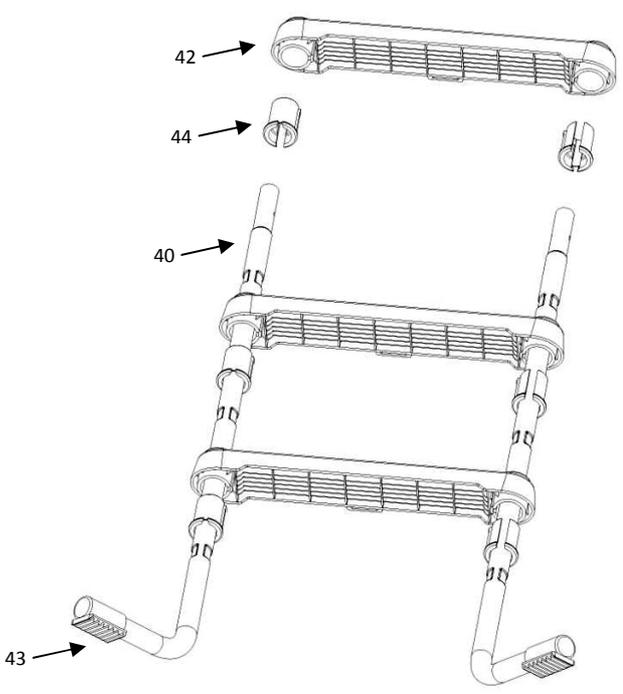

Fig. 2
3. To prepare the **Ladder Leg Ass'y** (see Fig. 2), start with one "R" ladder leg section. Carefully pry open one Ladder Step Clip (44) from the side, just enough to get over the top section of the Ladder Leg (40), and slide it from the top of the leg down to the lowest indented section as shown in the Figure 2. The ridge on the Ladder Step Clip should be on the inside of the leg as shown in the Figure 2. Repeat the same process to make the "L" ladder leg section.